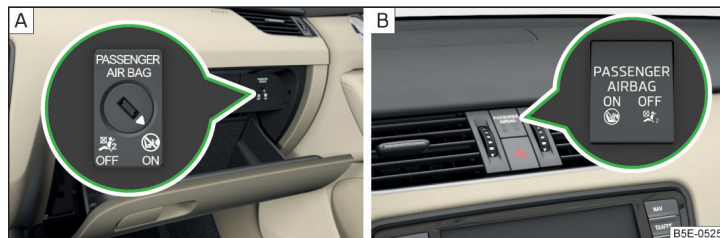

Fig. 14 Key-operated switch for the front passenger airbag/warning light for the front passenger airbag
- The warning light **OFF**  » Fig. 14 on page 21 - **B** comes on after the ignition has been switched on.
- Use the key to turn the slot of the key switch carefully into the position **OFF** » Fig. 14 - A.
- Check that the warning light **OFF**  underneath the text **PASSENGER AIRBAG** » Fig. 14 - B lights up after the ignition is switched on.
- Use the key to turn the slot of the key switch carefully into the position **ON** » Fig. 14 - A.
- › Check that the warning light **ON**  underneath the text **PASSENGER AIRBAG** » Fig. 14